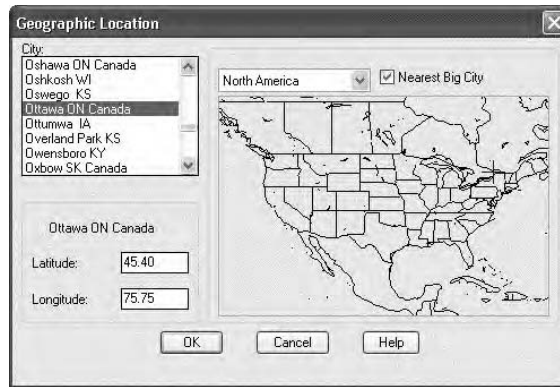

FIGURE A.32: The Geographic Location dialog box
4. Change the date to 9/8 and the time to 11:00, and then click the Geographic Location button to open the Geographic Location dialog box (see Figure A.32).